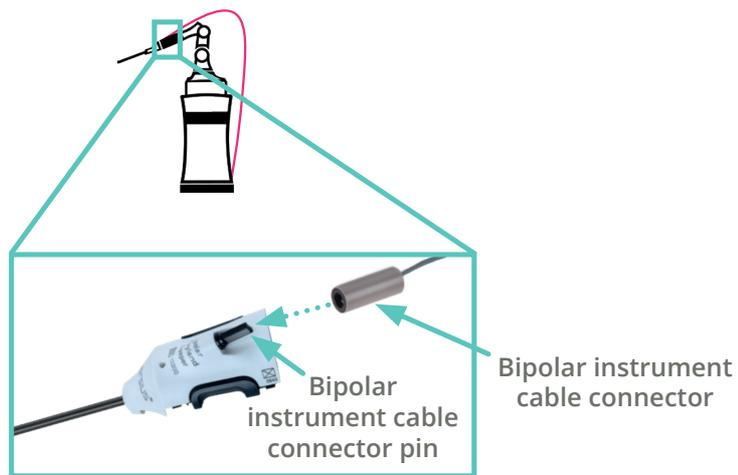

Figure 10.13 *Connecting the bipolar instrument cable to the instrument*
1. The connector pin on the bipolar instrument (Figure 10.13)